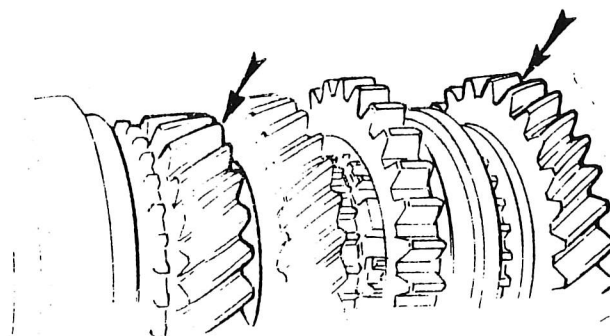

Fig. 34. ARROWS SHOW END-FLOAT CHECK POSITIONS
2. With a feeler gauge, check the end-float between the shaft shoulder and 3rd. gear (Fig.34). This should be .005/.008 in. (.13/.20 mm.); if outside this tolerance, replace the selective spacer (F, Fig. 32). Ensure circlip is fully engaged in its slot.